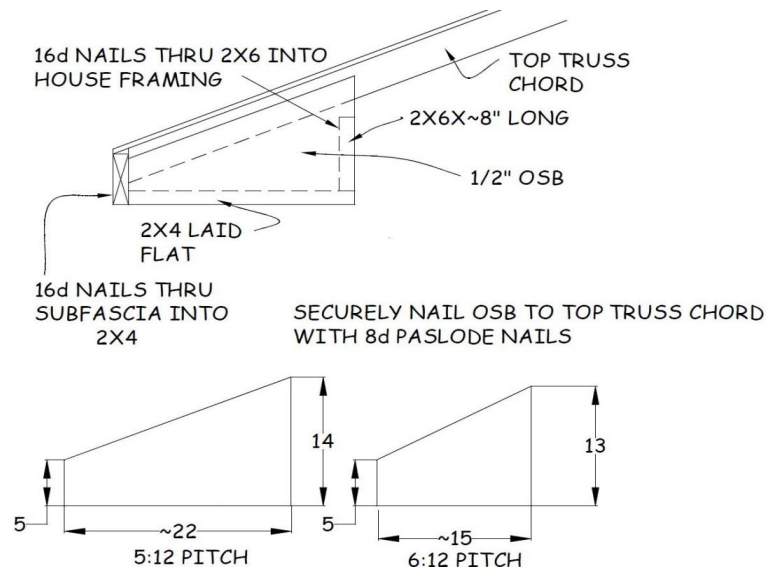

Figure 11-3. Gable Corner.
2. Gable corners are built using one layer of ½” OSB (see Figure 11-3).
6. Nail the OSB to the 2x4 and the 2x6 with six 2 3/8" collated nails, using either factory edges or a framing square to keep the frame pieces square to each other (see Figure 11-3).